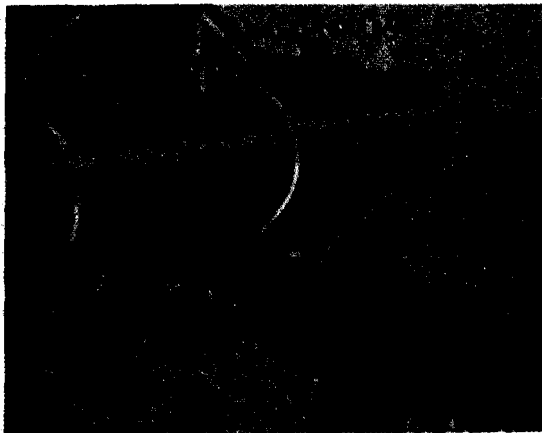

Figure 107. Removing bypass plunger
- (6) **Remove bypass plunger from cylinder base** (fig. 107).
- (7) **Remove straight pin from each end of roller pin and remove pin and roller.**
(1) Assemble hydraulic cylinder.
- (a) Insert bypass plunger in cylinder base (fig. 107).